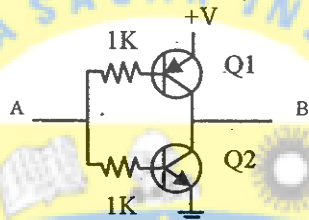

Fig 1(b). Buffer
* The o/p pins on the stepper motor driver do not provide enough current to drive the stepper motor. To amplify the current, a buffer is needed and is shown in fig 1(b).
In this example, the stepper motor driver is eliminated. The stepper motor is connected directly to the 8051 mc as shown in fig 1(a).
* The 8051 ports are unable to directly supply the current needed to drive the motor. To amplify the current, a buffer is needed and is shown in fig 1⑥.